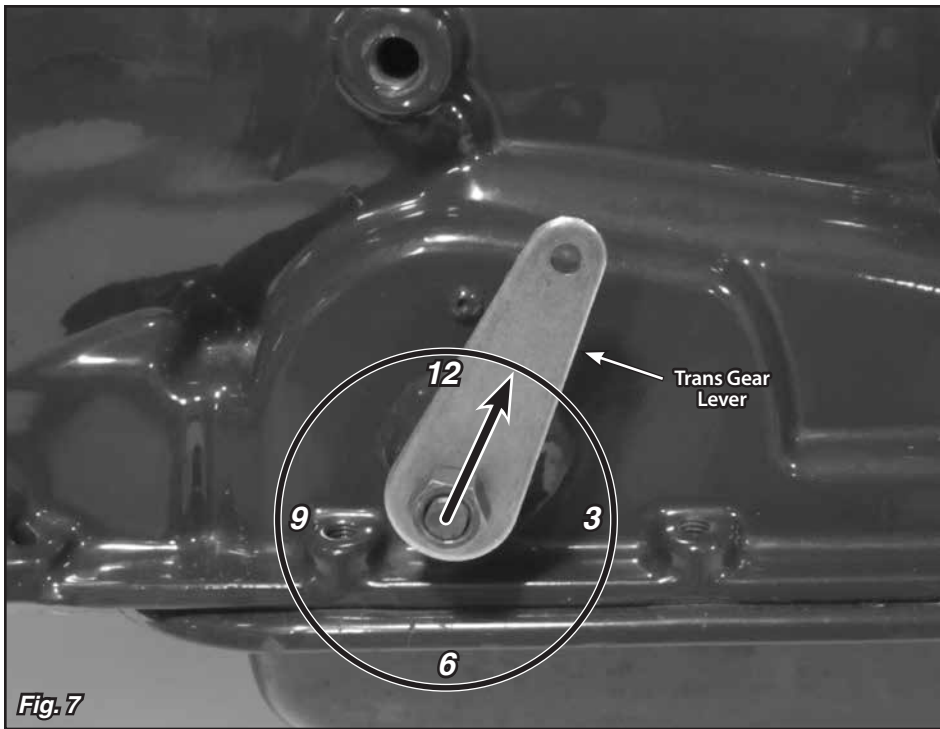

Fig. 7
Step 12: Remove the rod end from the new trans gear lever. Install the trans gear lever onto the transmission and secure with your original nut. Place the trans gear lever in the Park position with the top of the lever pointing up and slightly towards the rear of the transmission, at about the 1:00 position. **Fig. 7**